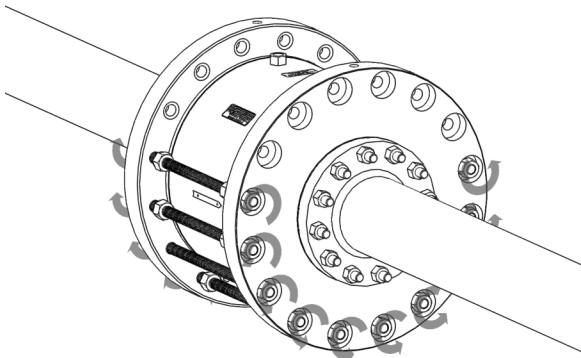

Figure 6 - Turn all tie stud nuts counter-clockwise
2. Turn the nuts on each remaining tie stud counter-clockwise until the face of the nut is flush with the end of the stud as shown in Figure 6 below.